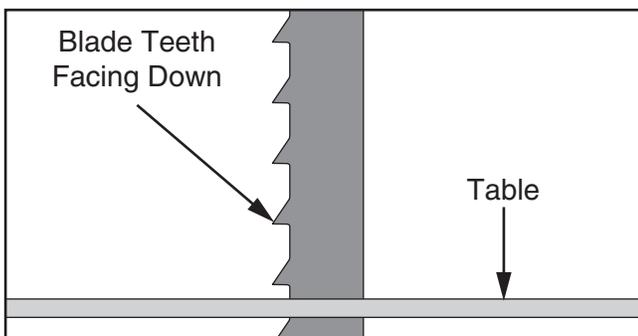

Figure 14. Correct blade teeth orientation.
7. Verify blade teeth are facing down through table, as shown in **Figure 14**.